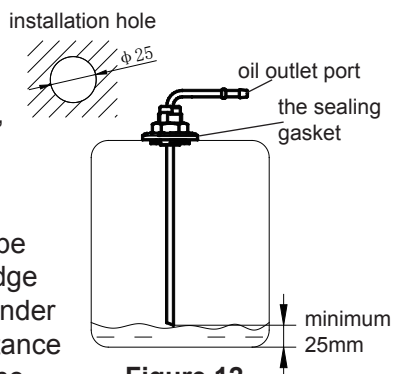
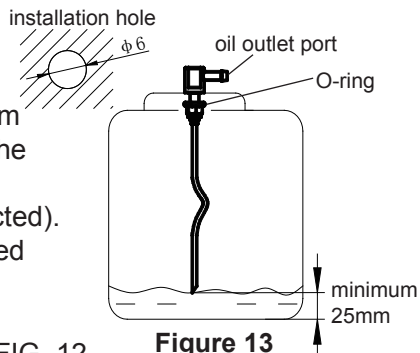

Figure 12
Figure 13
1. Installation of oil suction pipe: attention shall be paid to the installation hole (size: $\phi 25 \pm 0.2$) the edge shall be flat without burrs, and the sealing gasket under the oil pipe seat shall be installed in place. The distance between the lower end of the oil suction pipe and the bottom of the oil tank should be 30-40mm, which can not only ensure the full absorption of fuel, but also prevent the absorption of impurities deposited at the bottom of the oil tank. (See Figure 12 for details)
i The two types of oil suction pipes shown in FIG. 12 and FIG. 13 can be purchased by users according to their needs.